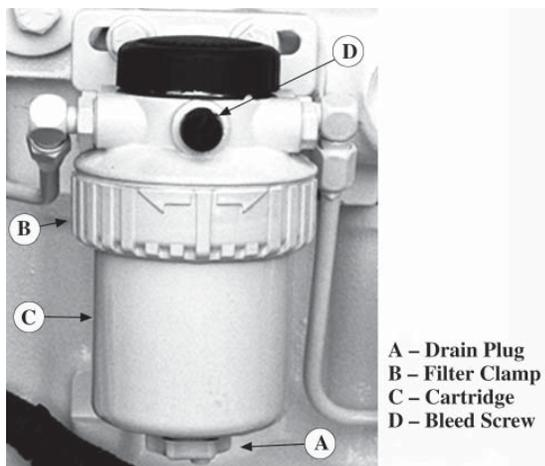

Figure 11: Secondary Fuel filter
- b. Open the filter drain plug (Figure 11-A) and drain the filter.
- c. Remove the secondary fuel filter by turning the filter clamp (Figure 11-B) counter clockwise until the filter cartridge (Figure 11-C) slides out.
- a. To bleed the fuel system, loosen the bleed plug (Figure 11-D) on the fuel filter. Operate the primer pump lever on fuel transfer pump (see component locations) until the air bubbles are expelled and clear fuel escapes the bleed plug. Tighten the bleed plug.